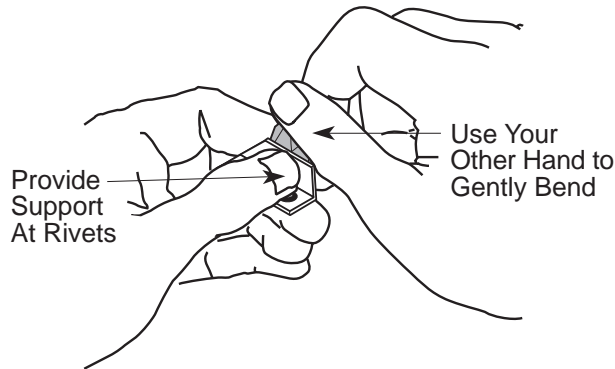

Figure 4-1: Adjusting the Thermocouple
4. Grasp the aluminum base of the thermocouple on either side of the rivets to provide support as shown in Figure 4-1. Using your fingers, gently bend the thermocouple where the “guitar pick” sensor meets the aluminum base.